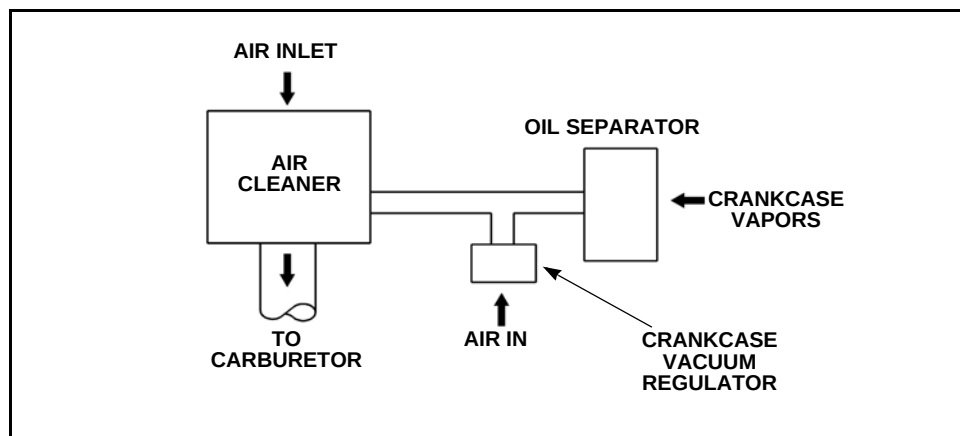

Figure 5-8 Naturally Aspirated System
- Vacuum behind the air cleaner draws the vapors into the intake, downstream of the air filter element, which are then burned in the combustion process, see Figure 5-8 below. This type of breather system is typically called a closed breather system because the vapors are directed in the engine.